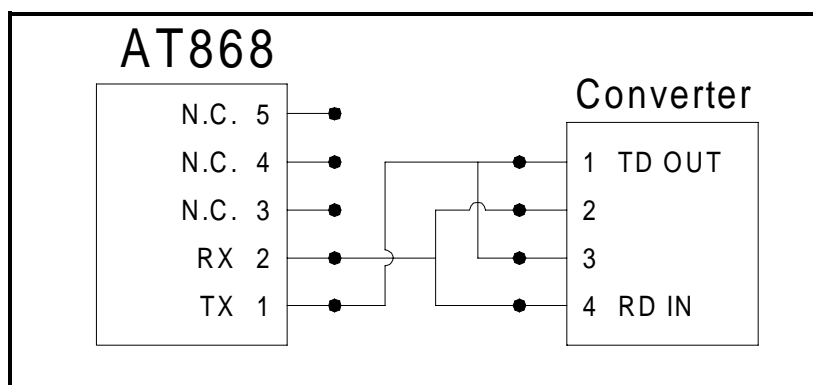

Figure 1-2: Typical RS485 Connections
- 3.** Connect the other end of the cable to the converter, as shown in Figure 1-2 on the following page.